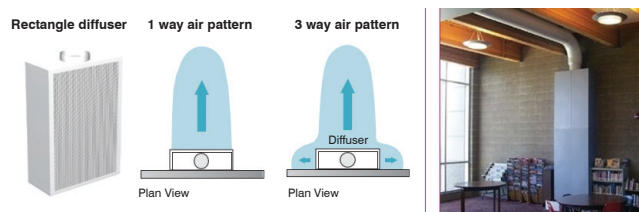

Fig.10 : Rectangle diffusers:DF installed against wall
- Hybrid heat-cool displacement diffusers, capable of operating in displacement mode during cooling and switching to higher-velocity or linear discharge during heating to avoid buoyancy short-circuiting.(Fig.10)